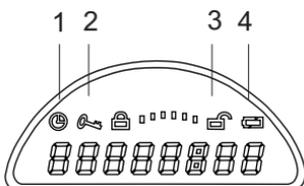
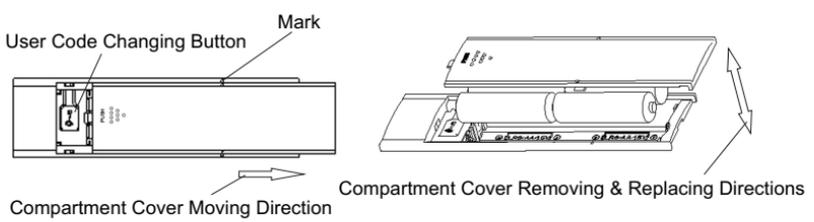

Figure 2
Figure 5 Removing the Compartment Cover
- Take out 4 AA batteries from inside the private container. Locate the battery compartment in the back of the door and remove the compartment cover (Figure 5, P.5 in User's Manual). Install the batteries into the compartment as per polarity marks indicated inside the compartment and replace the cover.
2. Press the '#' button and the prompt '🔑' will be displayed on the LCD screen (See Figure 2).
4. Locate the battery compartment in the door back. Remove its cover according to Figure 5. Press the user code changing button. The prompt '🔑' (See Figure 2) will be displayed on the LCD screen with two beeps to indicate that it's in process of changing the user code. (**Please replace the battery compartment cover after completion of changing the user code.**)
Enter your user code and the number you entered will be displayed on the LCD screen (See Figure 2).
Press the '#' button and the prompt '🔑' will be displayed on the LCD screen (See Figure 2).
1. Locate the battery compartment in the door back. Remove its cover according to Figure 5. Press the user code changing button. The prompt '👉' (See Figure 2) will be displayed on the LCD screen.
Push and remove the battery compartment cover according to Figure 5. Take out the old batteries and install the new ones properly into the compartment as the polarity marks show. Put and push the compartment cover into place.
Batteries installed incorrectly with wrong polarity placement or non-conformity batteries	Install the conformity batteries according to Figure 5